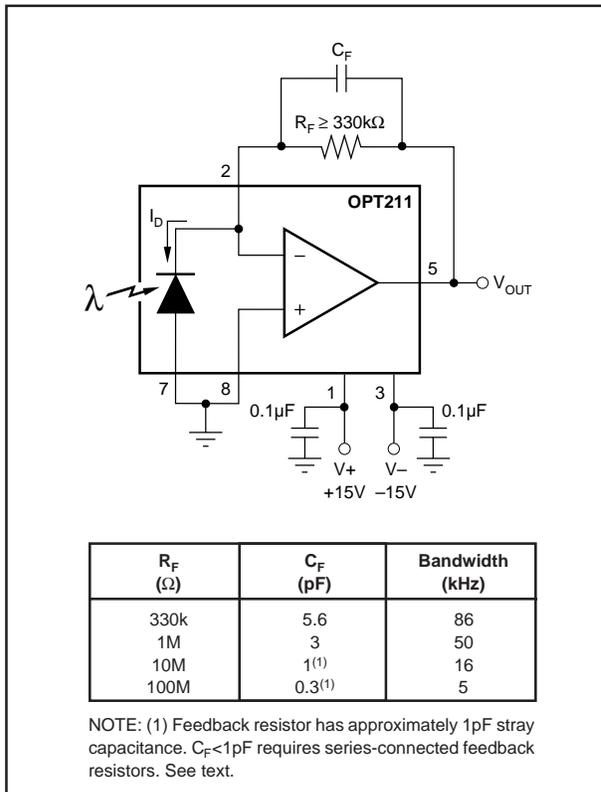
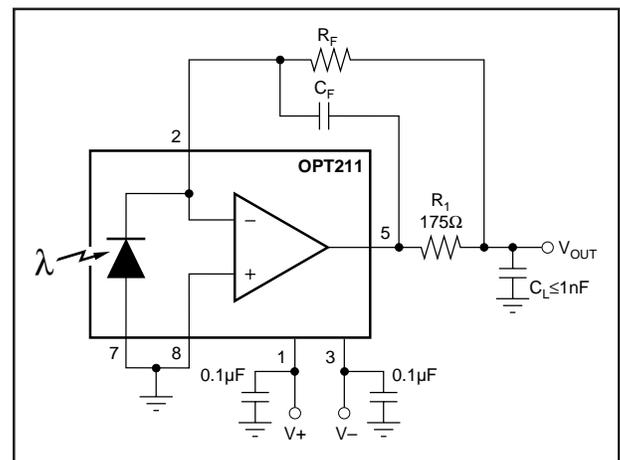
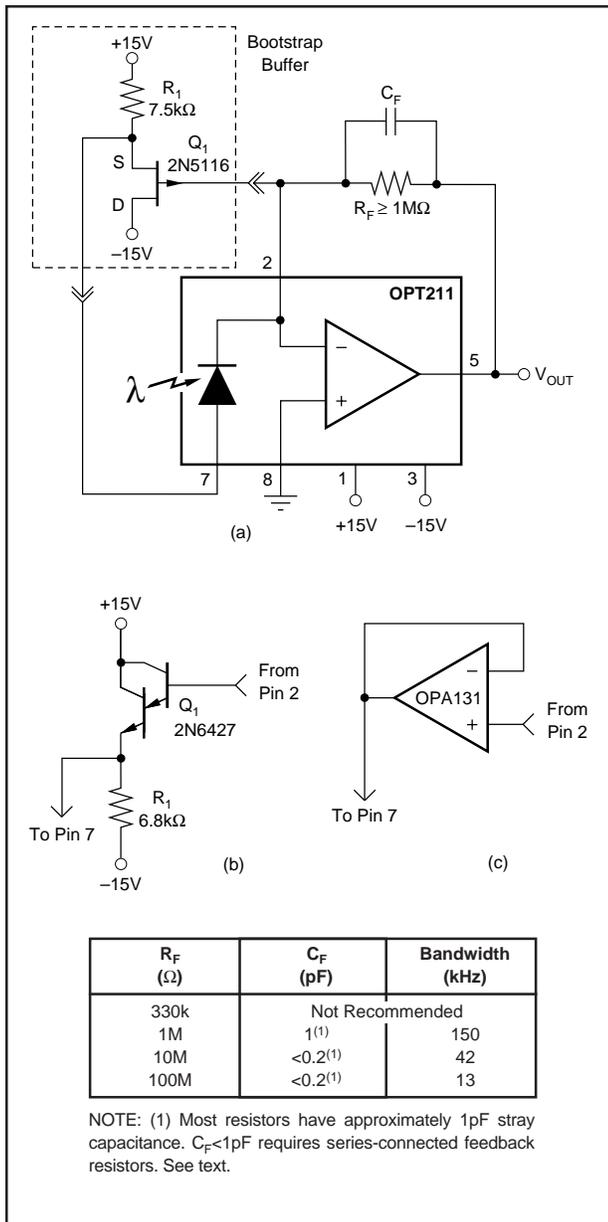

FIGURE 1. Basic Circuit Connections.
FIGURE 2. Increasing C-Load Drive.
FIGURE 3. Increasing Bandwidth with Bootstrap Buffer.
At $T_A = +25^\circ\text{C}$, $V_S = \pm 15\text{V}$, $\lambda = 650\text{nm}$, external $1\text{M}\Omega$ feedback resistor, circuit shown in Figure 1, unless otherwise noted.
NOTES: (1) Referred to Output. Includes all error sources. (2) See Figure 1. (3) See Figure 3. (4) See Figure 2.
Figure 1 shows the basic connections required to operate the OPT211. Applications with high impedance power supplies may require decoupling capacitors located close to the device pins as shown in Figure 1.
The OPT211’s output voltage is the product of the photodiode current and feedback resistor, ($I_D R_F$). The feedback resistor must be greater than 330k Ω for proper stability. A feedback capacitor, C_F , must be connected as shown. Recommended values are shown in Figure 1. Capacitor values for other feedback resistances can be interpolated.
The circuit in Figure 1 can drive capacitive loads up to 250pF. To drive load capacitance up to 1nF, connect R_1 and the feedback components as shown in Figure 2.
Dark error specifications include all error sources and are tested with the circuit shown in Figure 1 using $R_F = 1$ M Ω . The dominate dark error source is the input offset voltage of the internal op amp. The combination of photodiode dark current and op amp input bias current is approximately 1.5pA at 25°C. Even with very large feedback resistors, this contributes virtually no offset error. Dark current and input bias current increase with temperature, doubling (approximately) for each 10°C increase. At 70°C, dark current is approximately 35pA. This would produce 3.5mV offset with a 100M Ω feedback resistor.
Bandwidth of the OPT211 can be increased with the feedback buffer circuits shown in Figure 3. Driving the anode of the photodiode (pin 7) in this manner reduces the effect of the photodiode’s capacitance on signal bandwidth. This “bootstrap drive” circuit boosts bandwidth by approximately 3x. Bandwidth achieved with various R_F values is shown in Figure 2. When using a bootstrap buffer, R_F must be greater or equal to 1M Ω for stable operation.
Noise performance of the OPT211 is shown in typical curves for various feedback resistor values. This curve specifies the total noise measured from 0.1Hz to the indicated bandwidth. High frequency noise is reduced with the bootstrap transistor buffer circuits shown in Figure 1. This effect is shown on the typical curve.